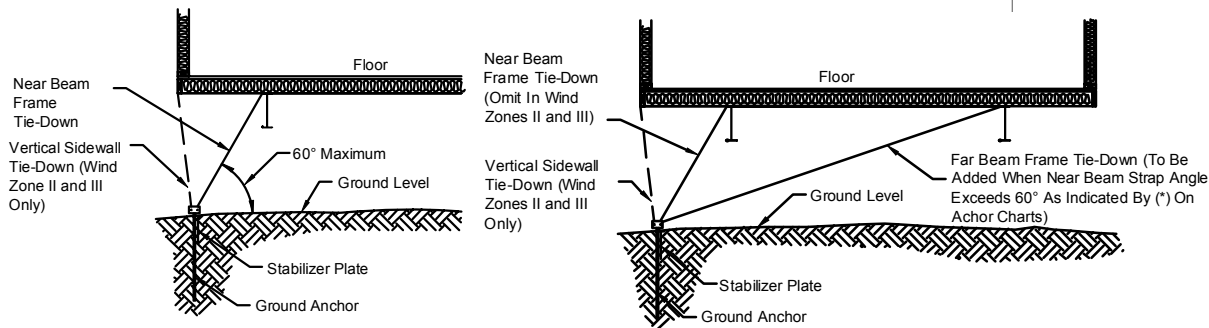

Figure 80. Lateral tie-down configurations
* Indicates a configuration that will require an additional strap connected to the far beam (see **Figure 80**).
There are two primary tie-down configurations: the near beam and the far beam methods. If the anchor spacing selected in the appropriate anchor table (**Table 25**, **Table 26** or **Table 27**) has an asterisk (*) then use the far beam method. Otherwise, use the near beam method (**Figure 80**). Each method varies by wind zone as described below.